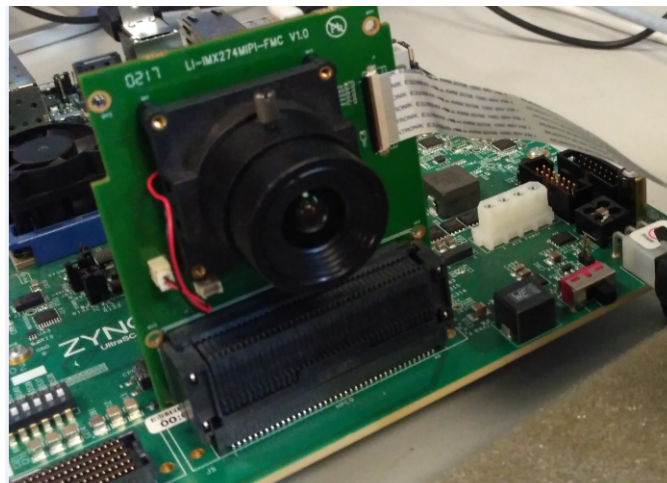

Figure 5-4: LI-IMX274MIPI-FMC Camera Sensor Module
- b. Connect the HDMI cable to the ZCU102 HDMI port (top port) (Figure 5-4).